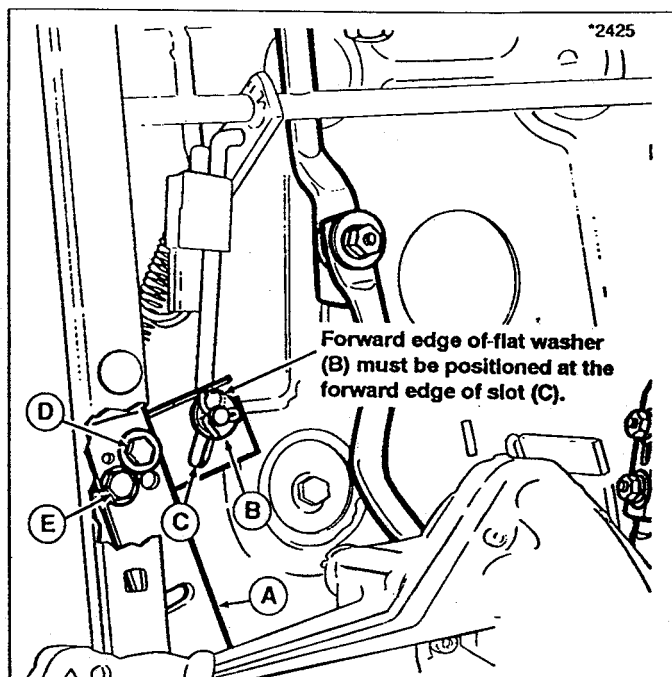

Figure 29. Idler Pulley Adjustment - Hydro Models
3. See figure 29. Inspect the idler pulley plate (A) for correct position. The forward edge of the flat washer (B) should be positioned at the forward edge of slot (C). If adjustment is required, proceed to step 4.
4. Loosen capscrew (D) and taptite screw (E) securing pivot plate (A).
5. Rotate the pivot plate (A) until forward edge of flat washer (B) is positioned at the forward edge of slot (C). Tighten the attaching hardware when adjustment is correct.